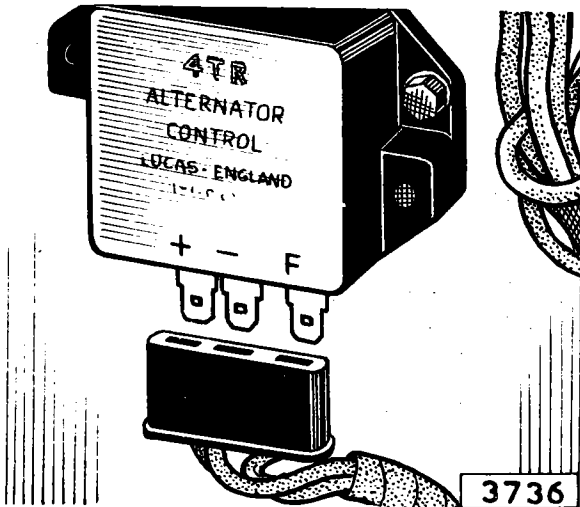

Fig. 10 Showing the cable terminals disconnected from the base of the control unit
- Detach the terminal connector block from the base of the control unit and connect the black and brown/green cables together by means of a short length of cable with two "Lucar" terminals attached. This operation connects the alternator field winding across the battery terminals and by-passes the output control unit (Fig. 10).